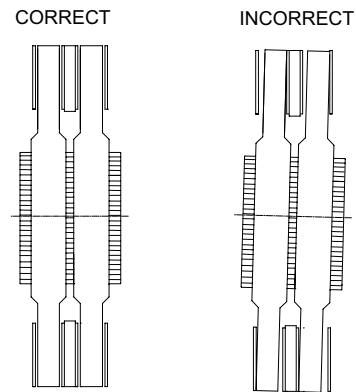

Figure 2
Proper alignment is necessary to assure that the discs (58) will track properly. Improper alignment will result in excessive wear to the friction discs (8), discs (58) and gear (28). See Figure 2.